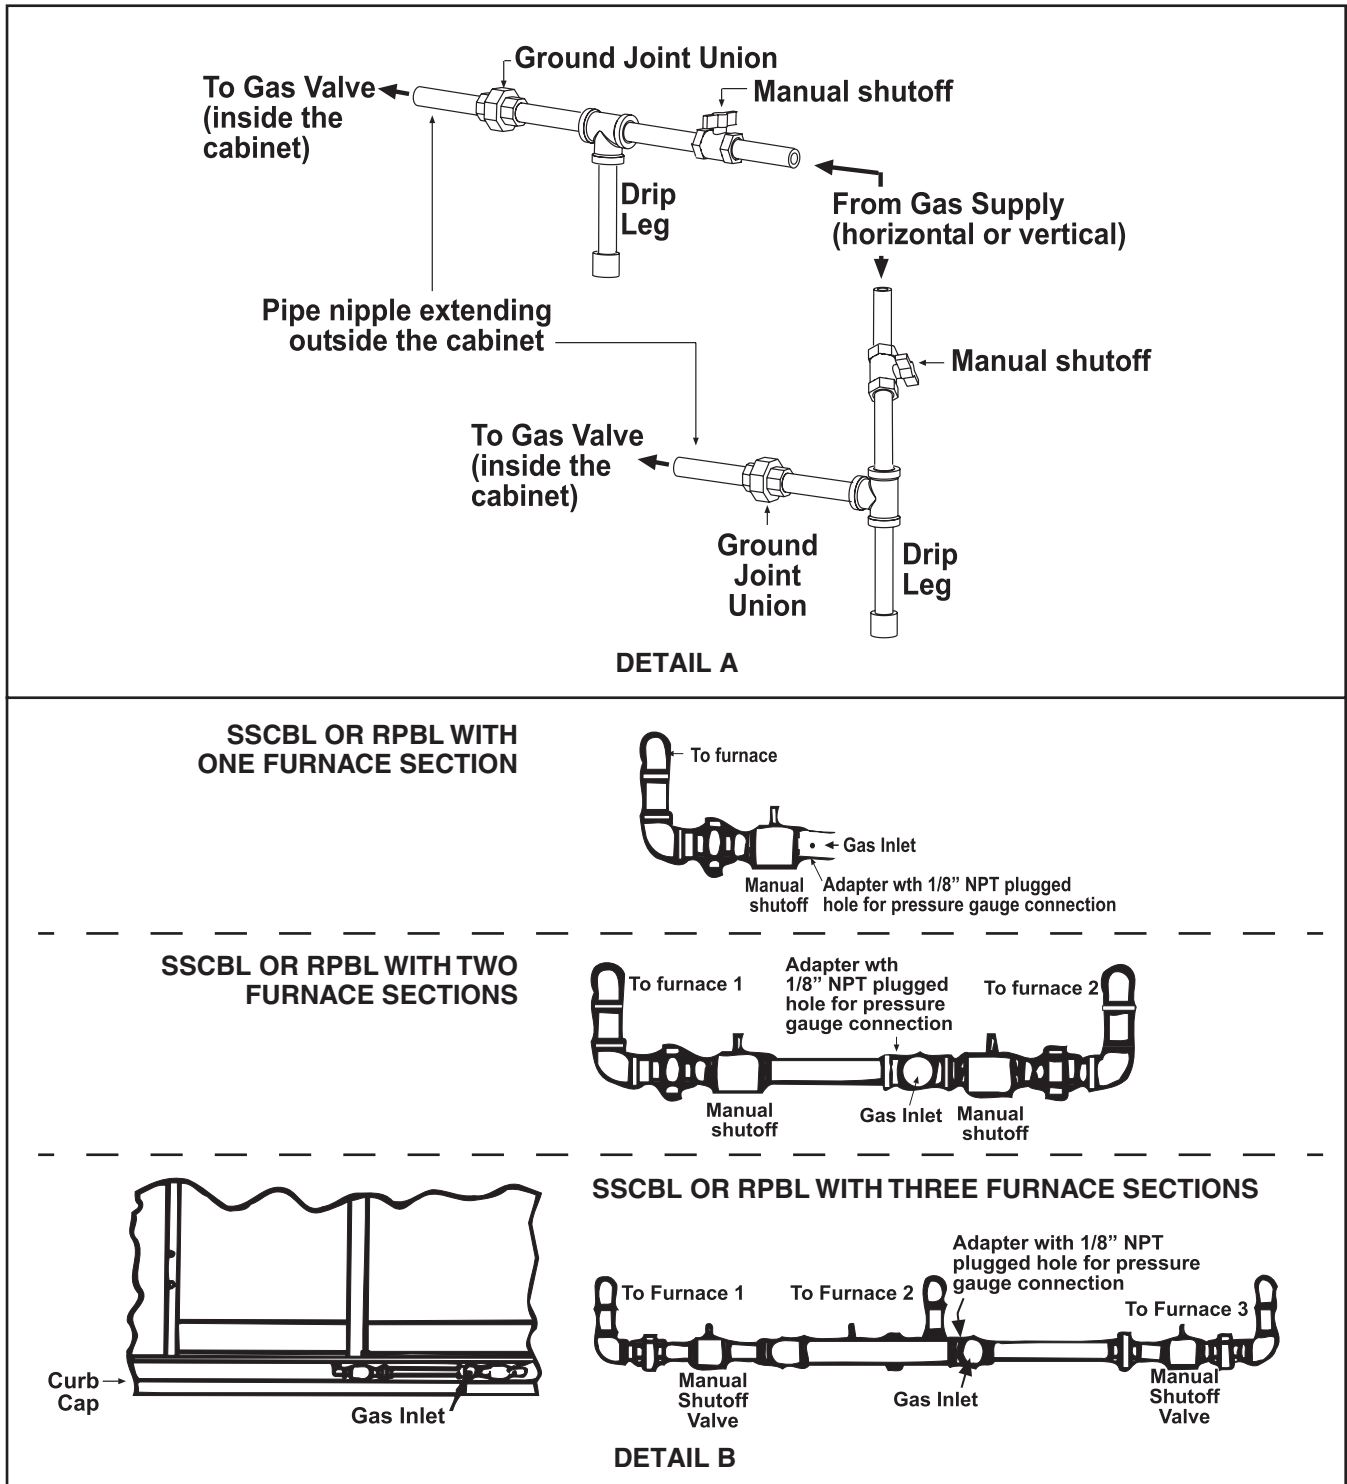

Figure 35. Gas Connections
- Install a ground joint union and manual shutoff valve upstream of the unit control system. The 1/8-inch plugged tapping in the shutoff valve provides connection for the supply line pressure test gauge. The *National Fuel Gas Code* requires the installation of a trap with a minimum 3-inch drip leg. Local codes may require a longer drip leg, typically 6-inch (see Figure 35, DETAIL A).
- Gas connection and manifold arrangements are shown in Figure 35, DETAIL B. Gas connections sizes are listed in Table 22.